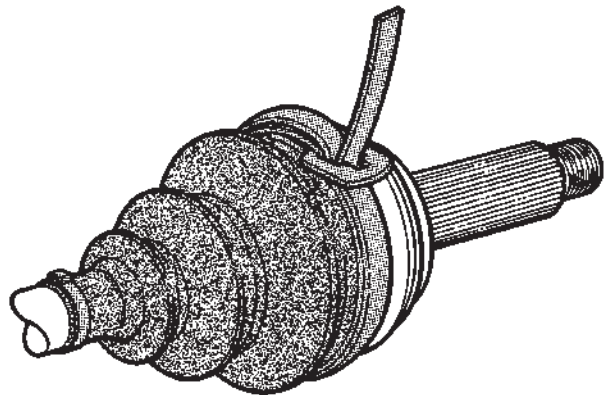

Fig. 5 Fold Strap Lightly to Keep Position
- (7) Fold the strip back slightly to prevent it from slipping backwards (Fig. 5).